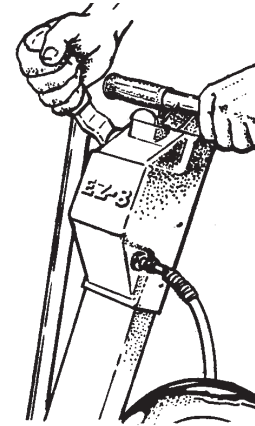

Figure 1
1. Lower sanding drum with control lever. See figure 1.